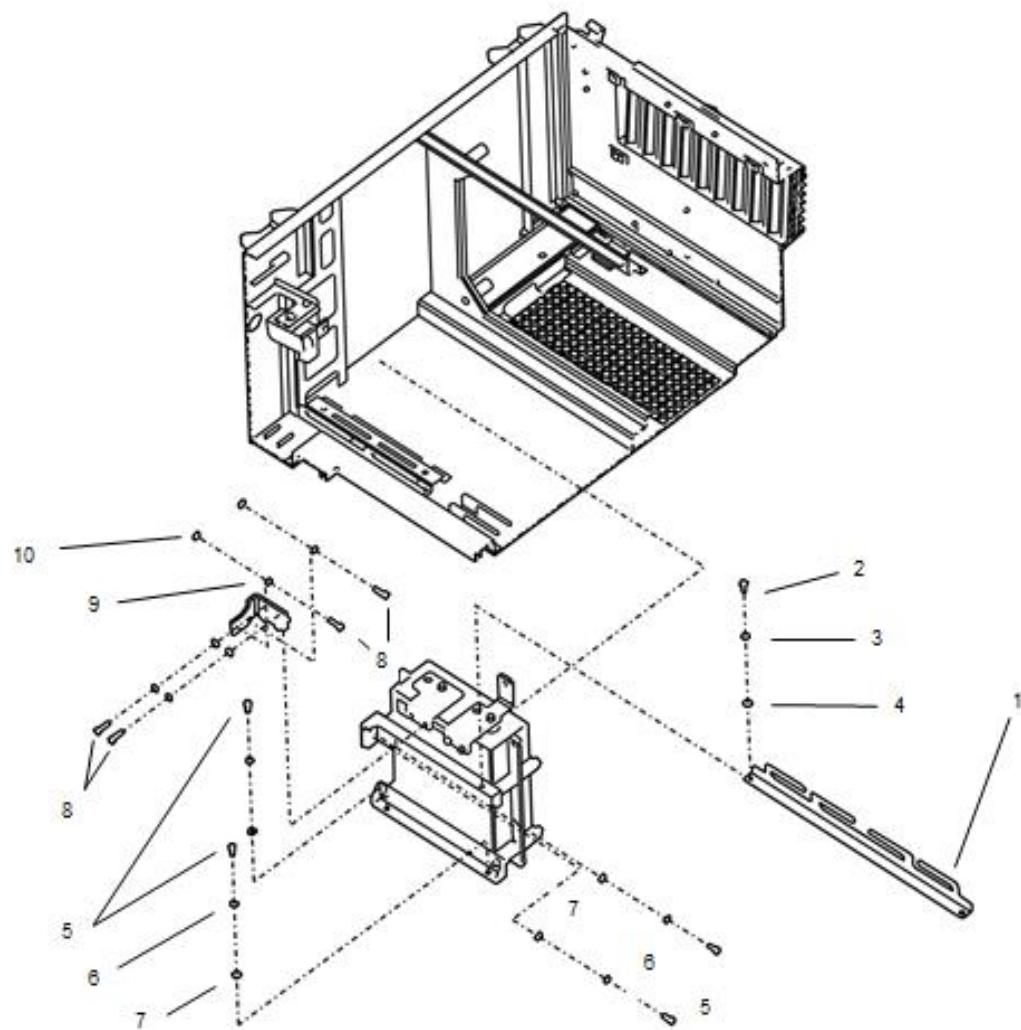
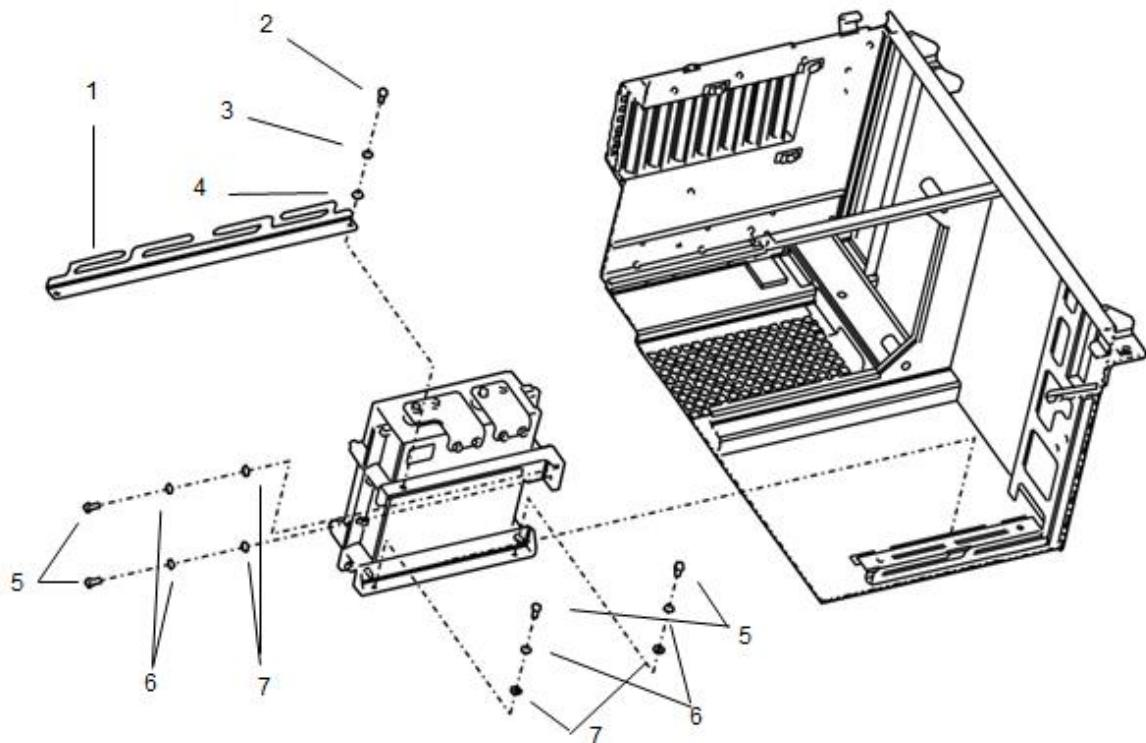

Figure 5-30: Filter Capacitor Unit 1 Installation
Figure 5-31: Filter Capacitor Unit 2 Installation
4. To remove either FC1 or FC2, the frame bar (1) must be removed. Remove the M8 bolts (2) on each end with a 13 mm socket wrench. Refer to Figure 5-30 for FC1 and Figure 5-31 for FC2.
5. Loosen the four M8 bolts (5) that secure the FC1 or FC2 bracket to the enclosure frame.
6. Loosen the M8 bolts (8) that hold the bus bar to the top of the FC unit. The FC can now be removed.